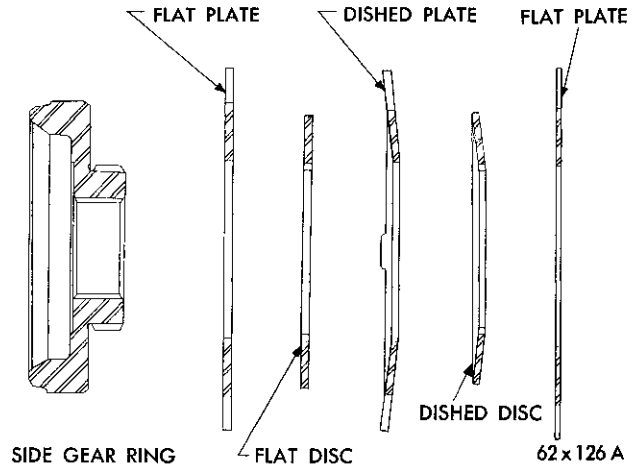
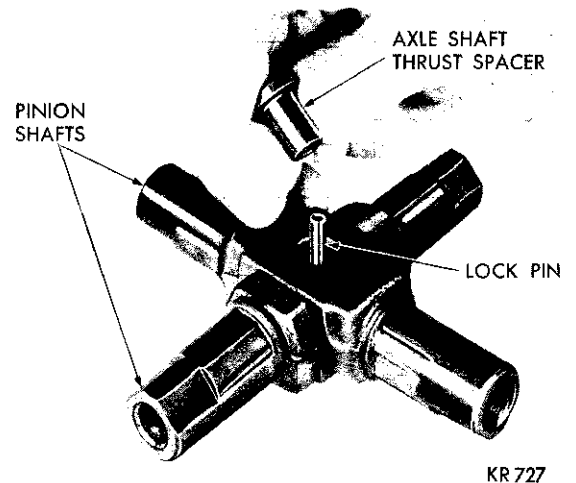

Fig. 48—Arrangement of Plates and Discs
Fig. 49—Installing Axle Shaft Thrust Spacers
- (1) Position the clutch plates and discs in their proper location in each half of the case, (Fig. 48).
- (2) Place the side gears in their retainers. Insert splines of the retainers through the splines of the clutch discs.
- (3) Place the aligning pin through one axle shaft thrust spacer. Assemble the pinion shafts on aligning pin.
- (4) Place the pinion gears on shafts and install the assembly on the drive gear half of the case. Insert the thrust spacer in the pinion shaft (Fig. 49).
- (5) Slide the cap half of case over the edge of bench far enough to insert one finger up through the assembly to hold it together. Place the assembly on the drive gear half, matching the scribe marks.
- (6) Make sure the markings on each differential case half coincide. Install the differential case bolts and turn them in a few threads.